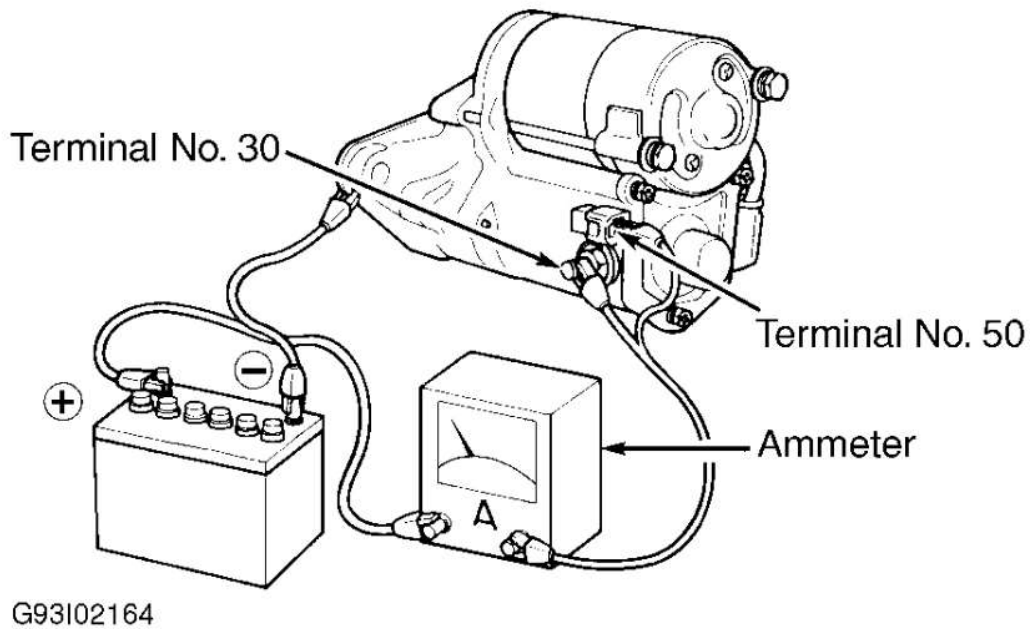
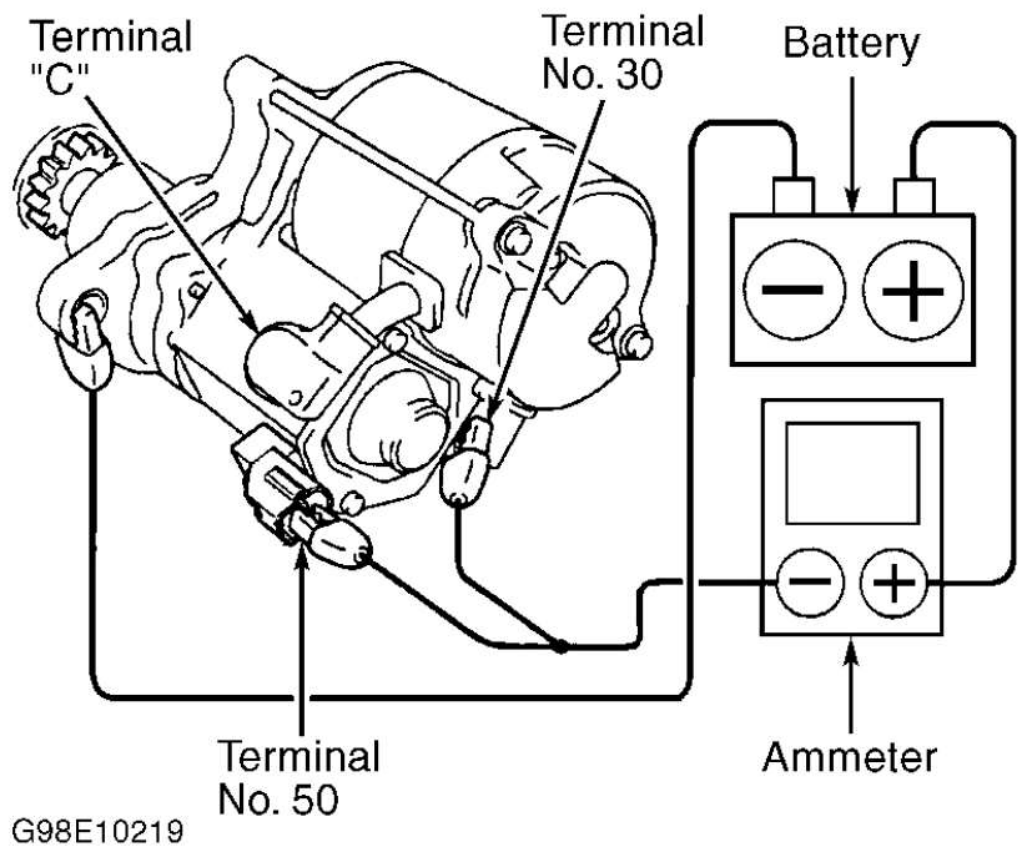

Fig. 9: Starter No-Load Test (Celica Shown; Land Cruiser, RAV4, Sequoia, Tacoma 4-Cyl. & 4Runner 4-Cyl. Are Similar)
Fig. 10: Starter No-Load Test (Avalon & Sienna Shown; Camry, Camry Solara, Corolla, Highlander, Tacoma V6, Tundra & 4Runner V6 Are Similar)
1. Remove starter. Connect ammeter in series between starter motor terminal No. 30 (battery terminal) and a fully charged 12-volt battery. Connect battery negative lead to starter case ground. See **Fig. 9** or **Fig. 10**. Connect voltmeter to battery to observe voltage draw readings.